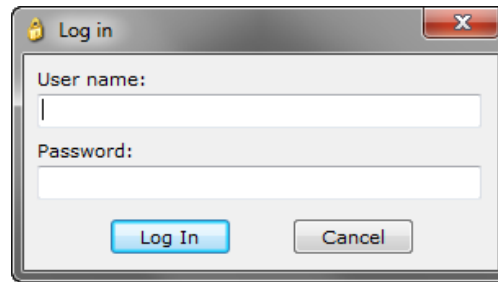

Figure 4. Login Screen
1. Use the Settings Explorer in BESTCOMSP^{Plus} to select User Name Setup under General Settings, Device Security Setup. The Login dialog box appears. See Figure 4. An administrator access level is required to set up usernames and passwords.
2. The Login dialog box pops up. See Figure 4. An administrator access level is required to set up port access. Enter the username and password of the administrator and then click the Log In button. The default administrator username is “A” and the default password is “A”.